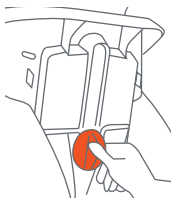

Fig. 35-2
- To adjust the seat back height, turn the moving back adjuster knob behind the seat clockwise to increase the seat back height and counter clockwise to decrease the seat back height. Each half turn will raise or lower the slots 12.5 mm (1/2") (Fig. 35-2).